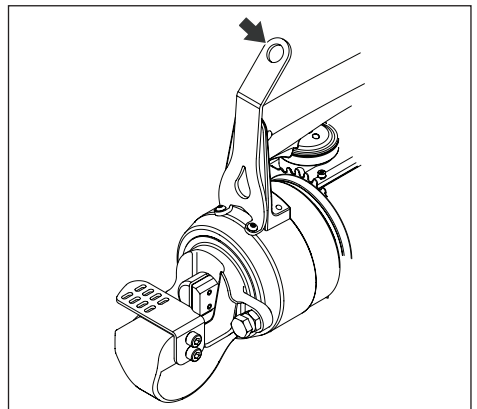

Figure 6, Lifting Hook (optional accessory)
- If it is desired to lift or support the cutter by mechanical means, use only the lifting hook supplied in the Enerpac lifting hook kit. See Figure 6. This optional accessory can be ordered from an Enerpac authorized distributor if it was not ordered with the cutter. Always use appropriately rated lifting equipment.